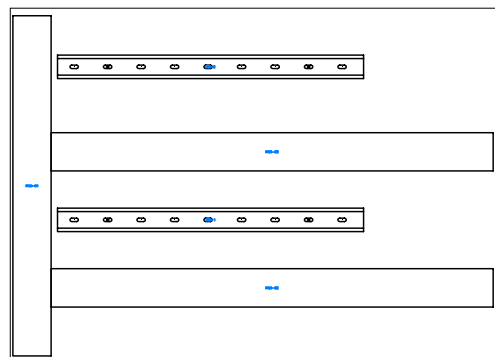

Figure P2-6 DIN-2 DIN Rail inserted in the drawing
39. Choose the **OK** button; the DIN-2 DIN Rail is inserted in the drawing, as shown in Figure P2-6.